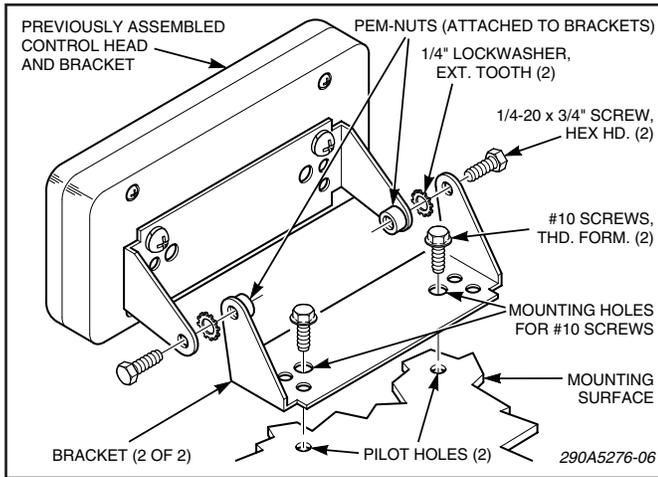

Figure 3-5.
A. Assemble a bracket to the control head using the 6-32 x 1/4 screws and #6 lockwashers. Assemble the other bracket to the control head/bracket assembly using the 1/4-20 x 3/4 hex head screws and 1/4” lockwashers as shown in figure 3-5.
D. Secure the mounting bracket to the mounting surface with the #10 thread-forming screws as shown in figure 3-5.